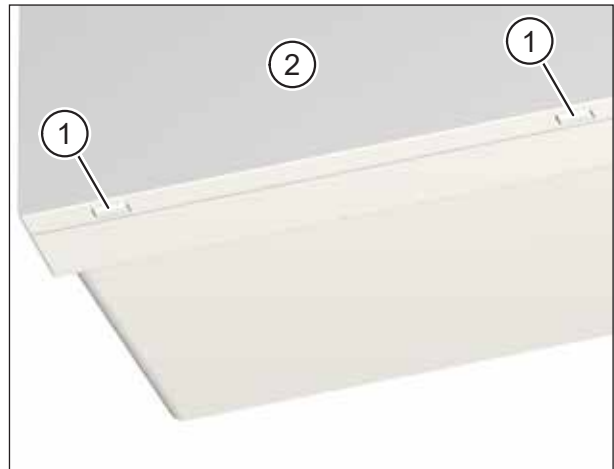

Fig. 20: Remove cover from the ventilation unit and clean
- ▶ Using both thumbs, press the two latches (item 1 in Fig. 20) on the bottom of the ventilation unit. The unit cover (item 2 in Fig. 20) will come away.